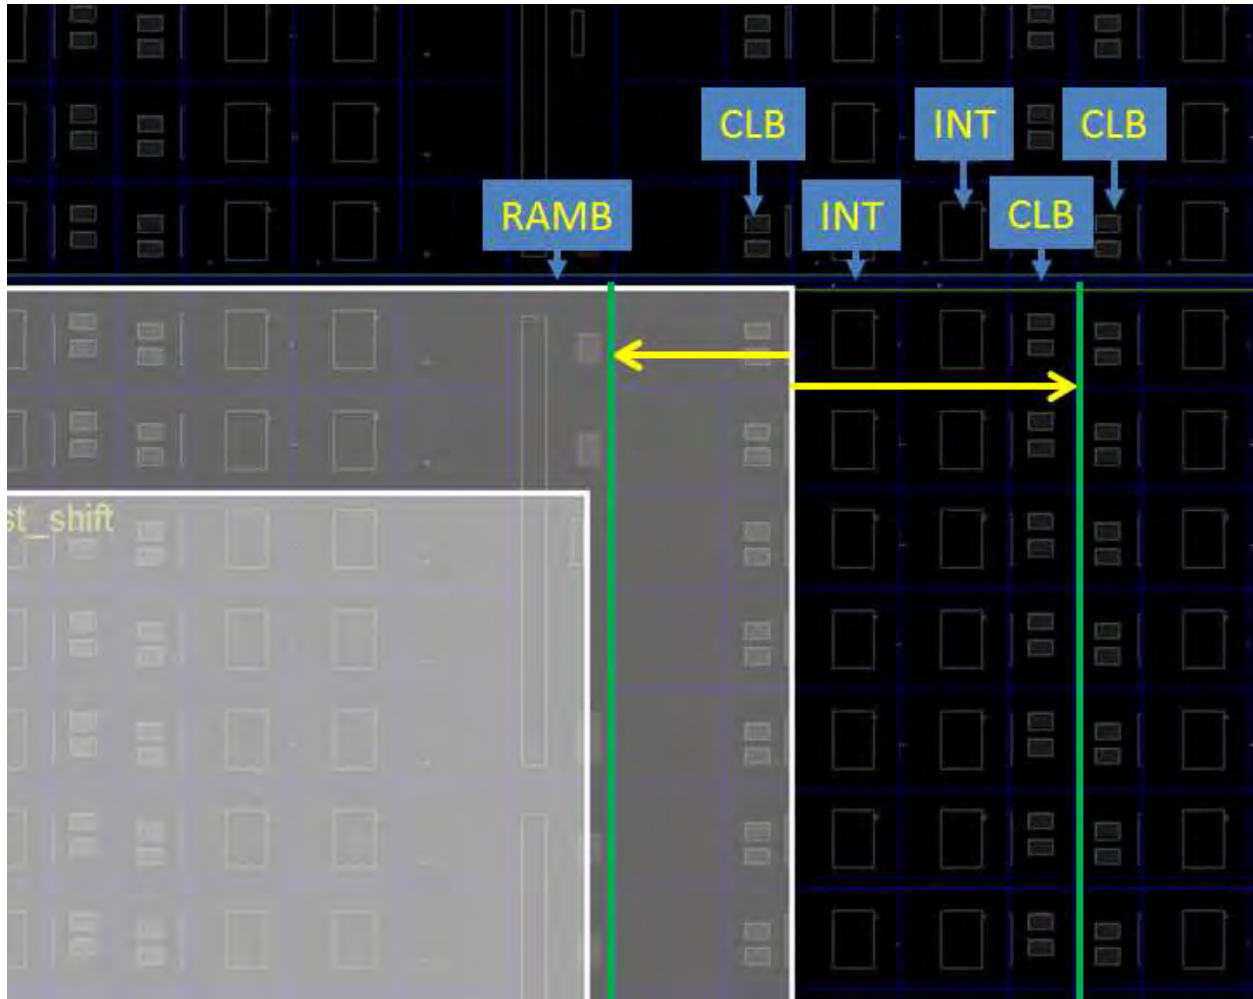

Figure 5: Adjusting the Edges of a Reconfigurable Pblock
- To manually avoid this DRC warning, zoom into the upper or lower corner on the reported edge of `inst_shift` (or `inst_count`, if `inst_shift` did not report an issue) to see where the violation occurred. Move this edge left or right one column, as shown by the yellow arrows in Figure 5, so it lands between two resource types (CLB-CLB or CLB-RAMB, for example) instead landing between CLB-INT or BRAM-INT.